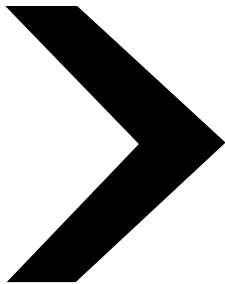

Figure 7.10.6.2.1 Chevron-Type Indicator.
- (1) The directional indicator shall be located outside of the EXIT legend, not less than $\frac{3}{8}$ in. (9.5mm) from any letter.
- (2) The directional indicator shall be of a chevron type, as shown in Figure 7.10.6.2.1.
- (3) The directional indicator shall be identifiable as a directional indicator at a distance of 40 ft. (12m).
- (4) A directional indicator larger than the minimum established for compliance with 7.10.6.2.1(3) shall be proportionately increased in height, width and stroke.
- (5) The directional indicator shall be located at the end of the sign for the direction indicated.